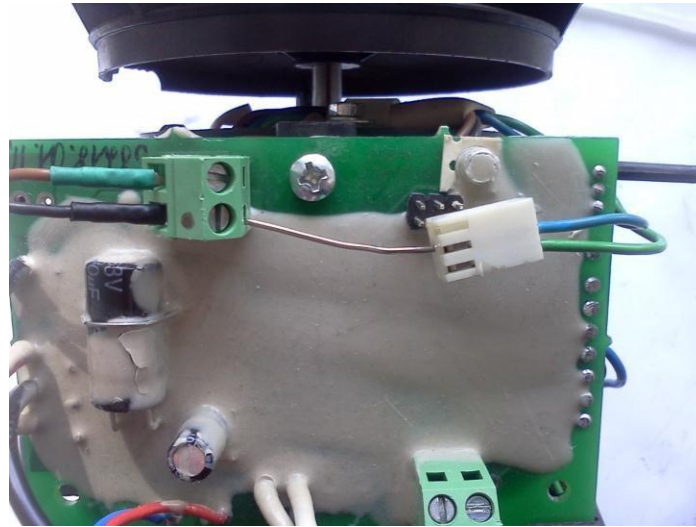

Fig.12 – Control signal (PWM) connections in motor testing.
- 2) Check the performance of the AB. To accomplish this, briefly connect the terminal of the blue wire (white block, PWM) to the terminal of the black wire (Figure 12) with a jumper, a thin wire. The heater should be connected to the power supply, but turned off. If the fan starts to spin - the AB is OK.
- 3) Check the AB for the absence of "blind spots". For this purpose, connect the terminal of the blue wire to the terminal of the black wire (Figure 12) multiple times, while changing the position of the fan, to verify if the AB starts in every position possible. If there are any "blind spots" - the AB is defective.
4) Check the performance of the speed measurement channel. To do this, connect the contacts of blue and black wires (Figure 12), and measure the pulse frequency on the green wire with a digital tester. When the AB is gaining speed, the pulse frequency should increase. Open the contact. The AB will start to slow down, and the pulse rate will begin to decline. If any of these conditions is not met, the AB is faulty.